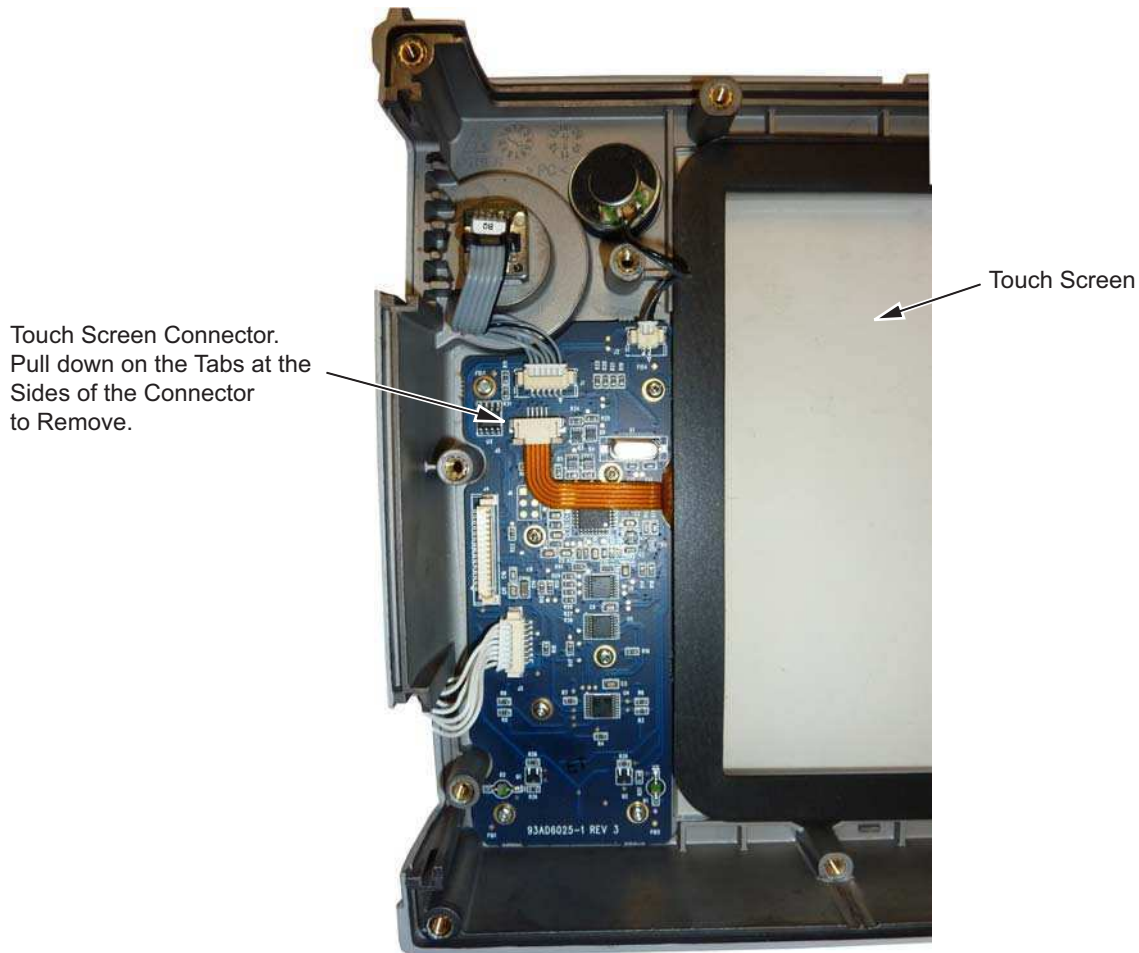

Figure 7-13. Replacing the Touch Screen
4. Remove the touch screen flex circuit connector from the Keypad PCB by pulling the tabs on each side of the connector away from the connector and in the direction of the flex circuit. Refer to Figure 7-13.